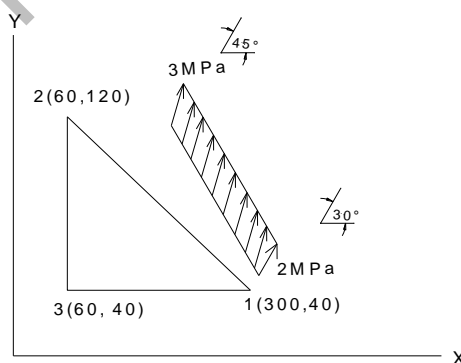

fig.5
16. An axi-symmetric body with a linearly distributed load on the conical surface is shown in fig.5. Determine the equivalent point loads at the nodes 1 and 2. Also determine the load matrix due to body force if the thickness of the plate is 10mm. Take $Y = 7.85 \times 10^{-5} \text{ N/mm}^3$. 10